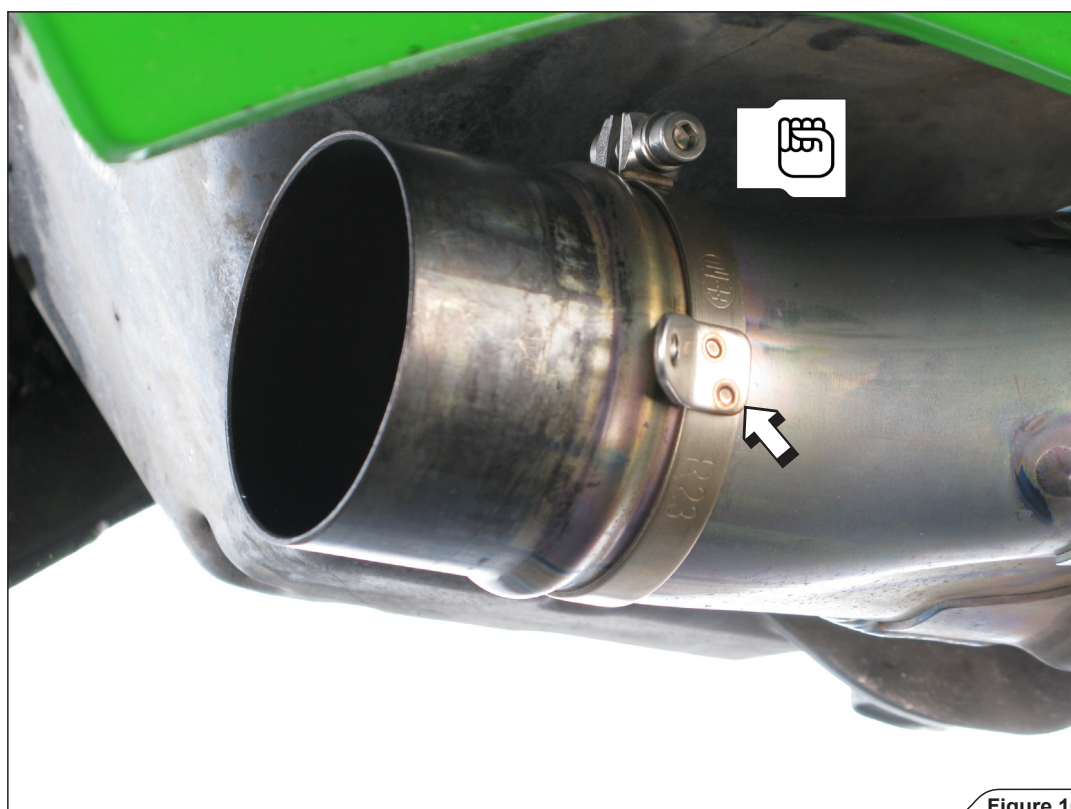

Figure 10
2. Install and hand tighten the spring hook clamp onto the outlet of stock header, as shown (Figure 10).